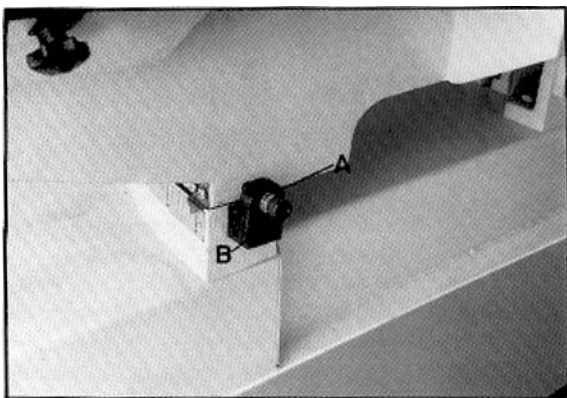

Figure 14
5. Loosen the lock nut (A, Figure 14).
6. Adjust the hex cap screw (B, Figure 14) until the blade is at a 90° angle to the fixed vise jaw.
7. Tighten the lock nut (A, Figure 14).